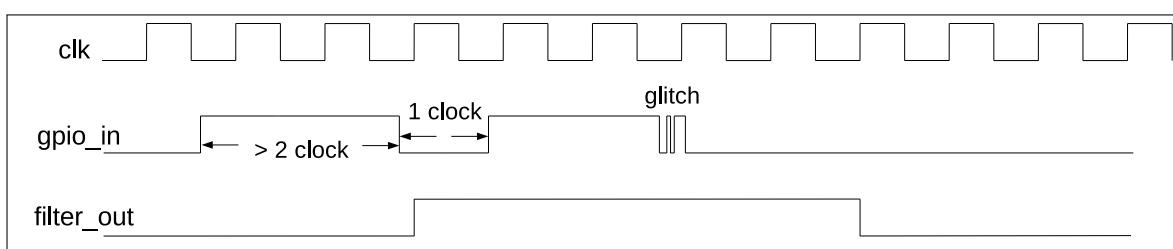

Figure 5.4-2. Filter Timing of GPIO Input Signals
- Optionally enable the filter for pin input signals by setting the register `IO_MUX_GPIOn_FILTER_EN`. Only the signals with a valid width of more than two clock cycles can be sampled, see Figure 5.4-2.